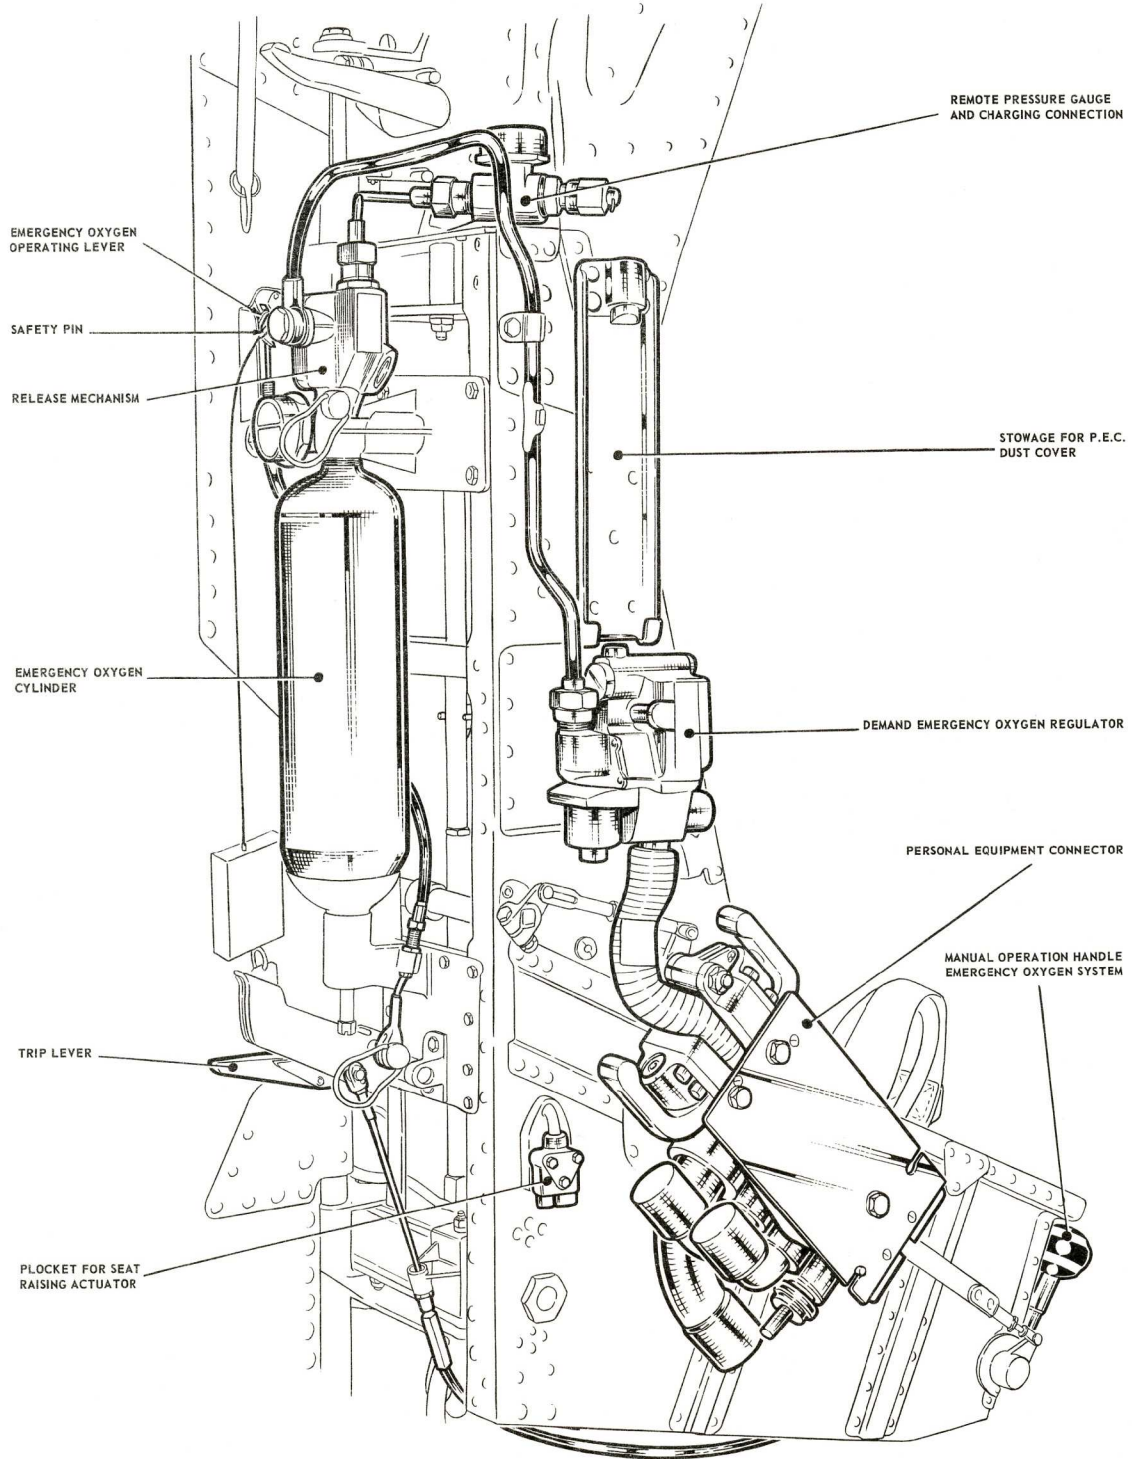

Fig. 1 Arrangement of oxygen supply on seat
16. The following procedure is to be followed when equipping the seat, refer to figs. 1 to 7 -